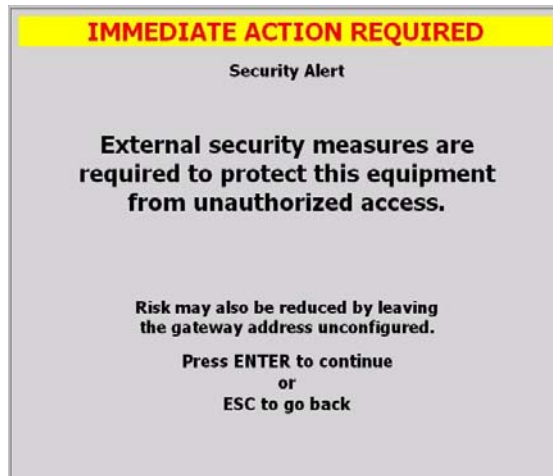

Figure 4.3-1 Network Connection Security Alert
- Read the alert (see Figure 4.3-1) and press Enter